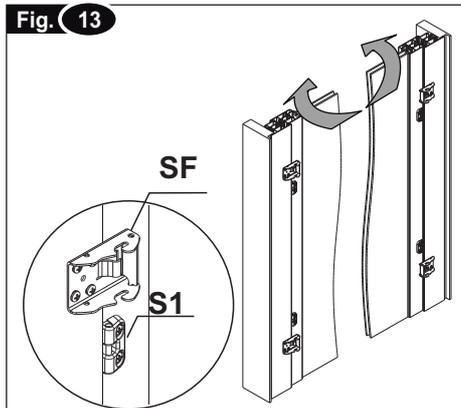

Fig. 14
- 7) **Fig. 14** - Insert the two pairs of clamps "M1", fitting them in the actuator slider adjacent to the chain terminal, then close them partially with the screw and nut in the package;
- 8) **Fig. 14** - Position the clamps 80mm on either side of the chain terminal midline and tighten the screw all the way;